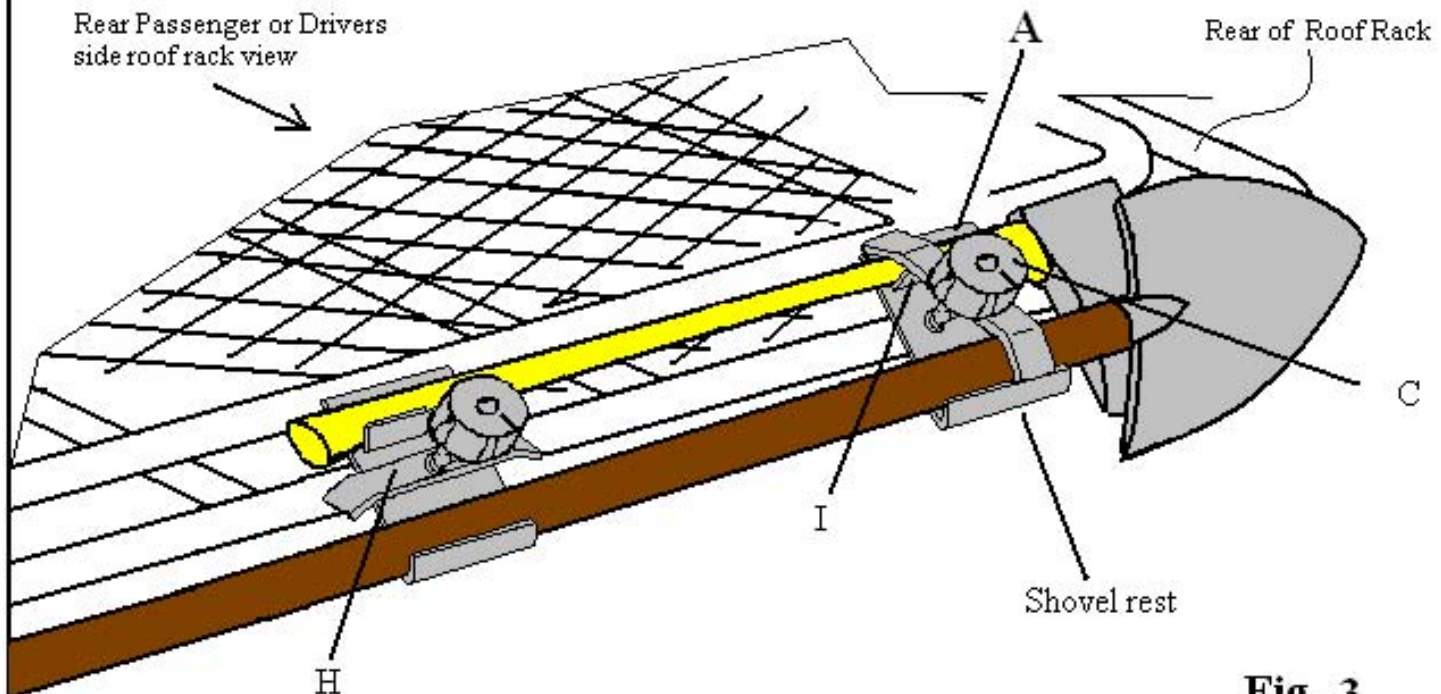

Fig. 3
- 4- Continue on to page 6 Fig. 3.
- A) Loosen both locking knobs "C" and swing pinch clamps "H" sideways as shown in Fig 3 page 6.
- B) Place the Axe onto the Axe resting plates "I" with the Axe head towards the rear of the roof rack as shown in Fig 3 page 6 and hold with one hand at this time.
- C) Place the Shovel onto the lower shovel rests as shown in Fig 3 page 6 with the spade end of the shovel towards the end of the roof rack covering the Axe head. With one hand holding both tools in place turn one of the pinch clamps "H" over the Axe and Shovel handles and clamp down using the locking knob "C". When one side is held in place continue to the other pinch clamp turn pinch clamp "H" vertical so that the clamp also covers the tool handles and clamp down using the locking knobs as shown in Fig 3 page 6.